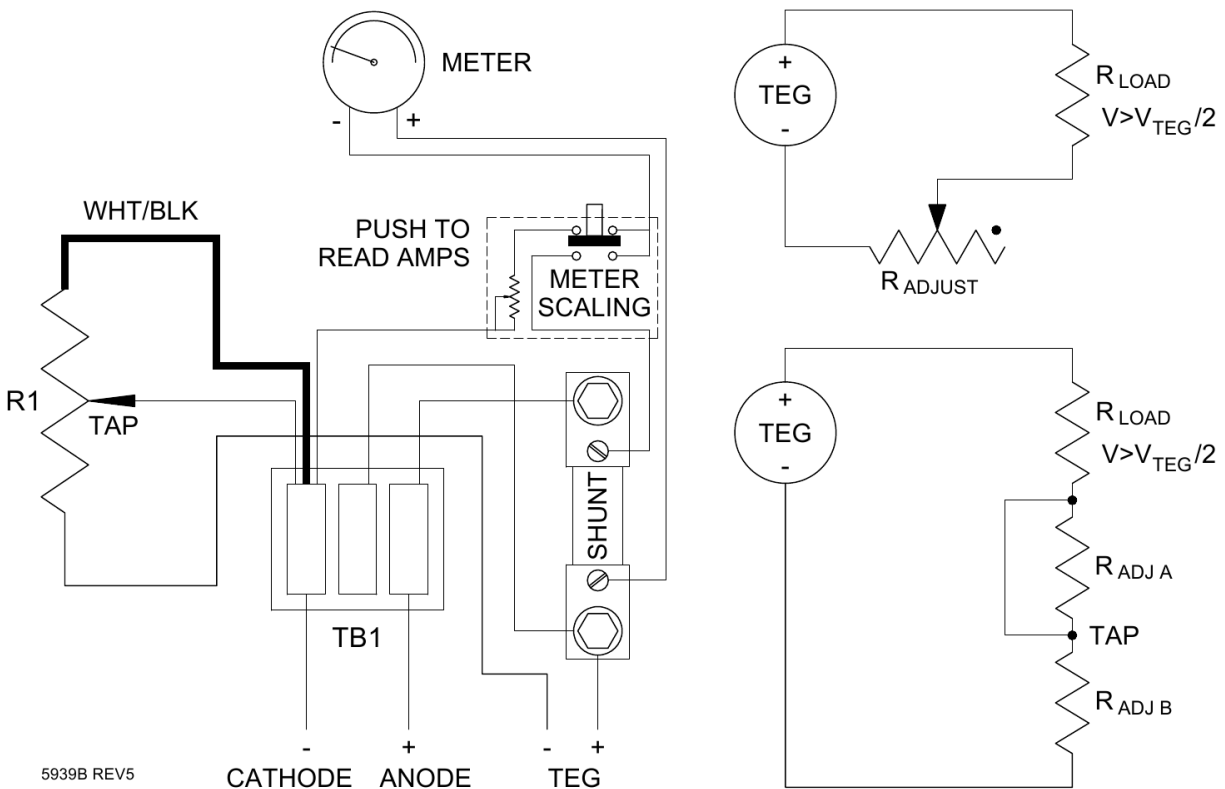
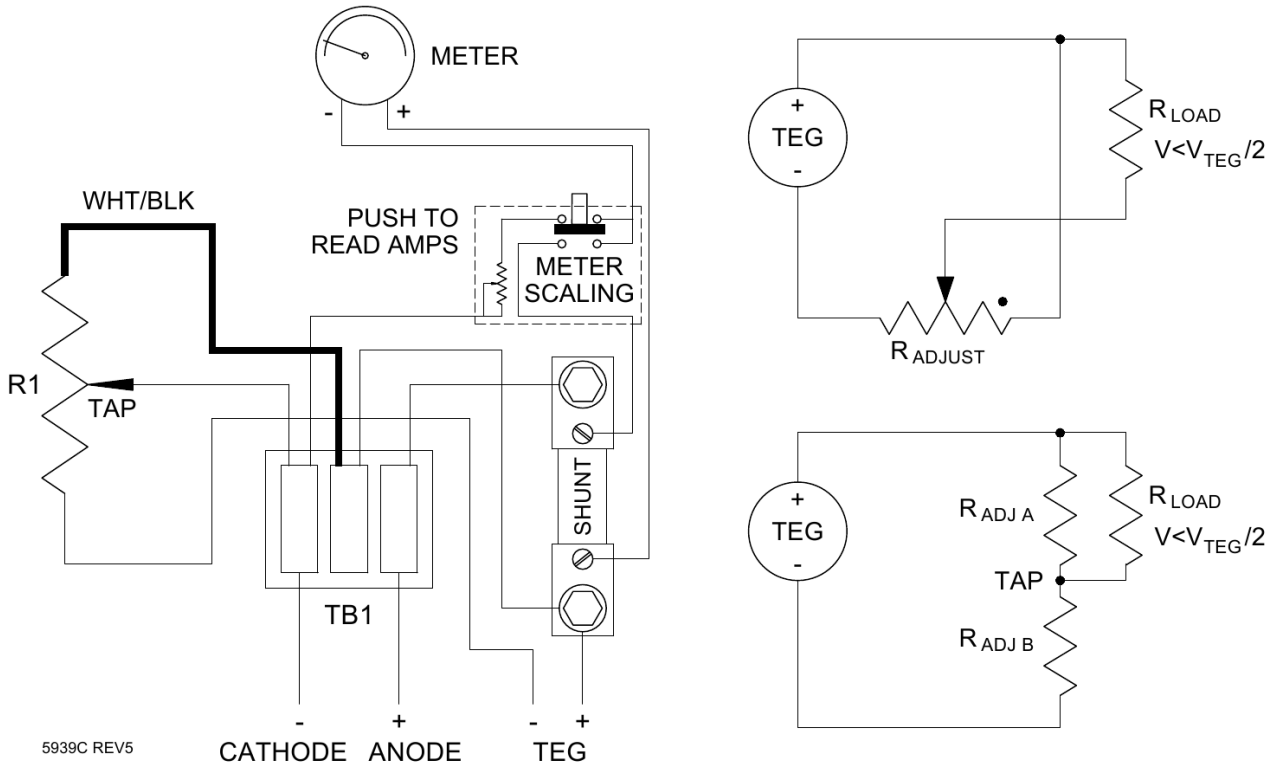

Figure 29 – CP Series Configuration Wiring
Figure 30 – CP Parallel Configuration Wiring
The Cathodic Protection Interface Panel provides for easy adjustment and monitoring of power to a Cathodic Protection (CP) load. The anode and cathode cables enter the cabinet at the bottom and connect directly to the heavy-duty terminal block. The CP Panel will mount to the TEG stand and can be sized for multiple TEG arrays. Refer to Figure 29 for locations and descriptions of the major components of the CP interface cabinet.
A 0 to 1 ohm, 1000-Watt variable resistor located at the top of the CP panel may be used to adjust the output current of the CP interface. This resistor may be connected in series or parallel with the CP load based on site CP load requirements. The adjustment resistor is a ceramic body ribbed type, and adjustments are made using a slide terminal for coarse adjustment and setting the limiter output voltage for fine adjustment. See Figure 29 for series connection and Figure 30 for parallel connection.